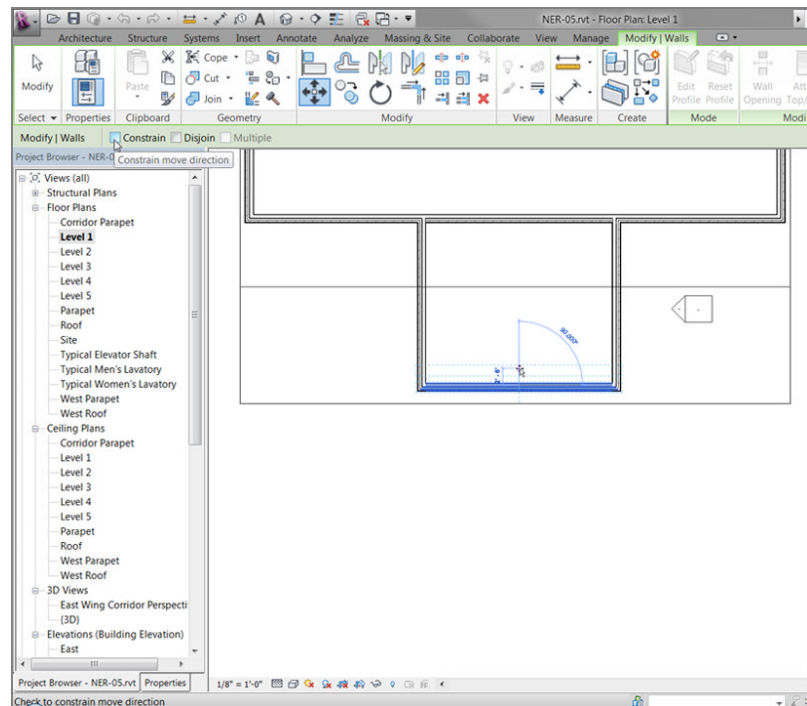

FIGURE 4.2: Choices on the Options bar. The first point has been picked, and the wall is being moved up.
6. To start moving the item, you must first pick a base point for the command. Pick a point somewhere toward the middle of the wall, as shown in Figure 4.2.
7. After you pick this point, move your cursor straight up. You see a blue dimension. At this point, you have two choices: you can eyeball the increment, or you can type the increment you want (see Figure 4.2).